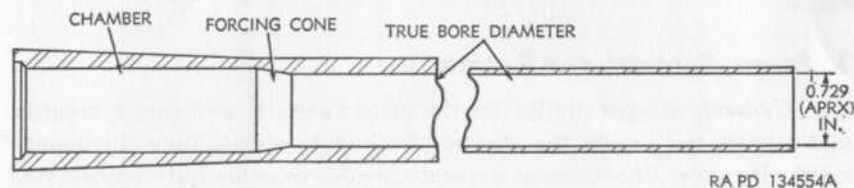

Figure 4. Section of a cylinder-bored, 20-inch, riot-type shotgun barrel.
- (1) *Injury to personnel or damage to materiel.* The reports necessary to comply with the requirements of the Army safety program are prescribed in detail in SR 385-10-40. These reports are required whenever accidents involving injury to personnel or damage to materiel occur.
- (2) *Ammunition.* Whenever an accident or malfunction involving the use of ammunition occurs, firing of the lot which malfunctions will be immediately discontinued. In addition to any applicable reports required in (1) above, details of the accident or malfunction will be reported as prescribed in SR 700-45-6.
a. Bore. The bore of a shotgun has two diameters, the chamber diameter and the true bore diameter, which are joined by a tapered section usually called the forcing cone (fig. 4).
(fig. 4). This affects the dispersion of the shot pellets. The degree of choke is measured by the number of pellets that group within a 30-inch circle at a distance of 40 yards. For an unchoked barred (cylinder-bored), this will be 40 percent; for a slightly choked barrel (improved cylinder-bored), this will be 50 percent; and for a full-choked barrel 75 percent. The shotguns covered by this technical manual are all unchoked (cylinder-bored).